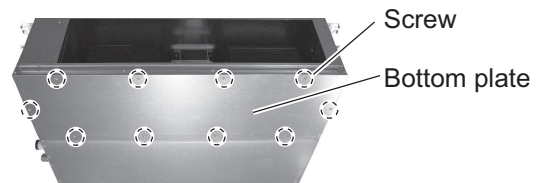

Fig. 5-6
4. Remove the bottom plate. (Fig. 5-6)